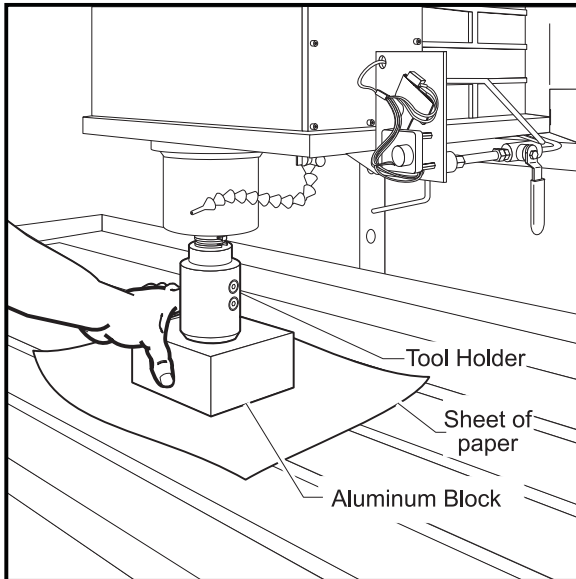

Figure 3. Placement of aluminum block under spindle.
1. Place a sheet of paper under the spindle for table protection, then place a machined block of aluminum (approximately 2" x 4" x 4") on the paper (Figure 3).